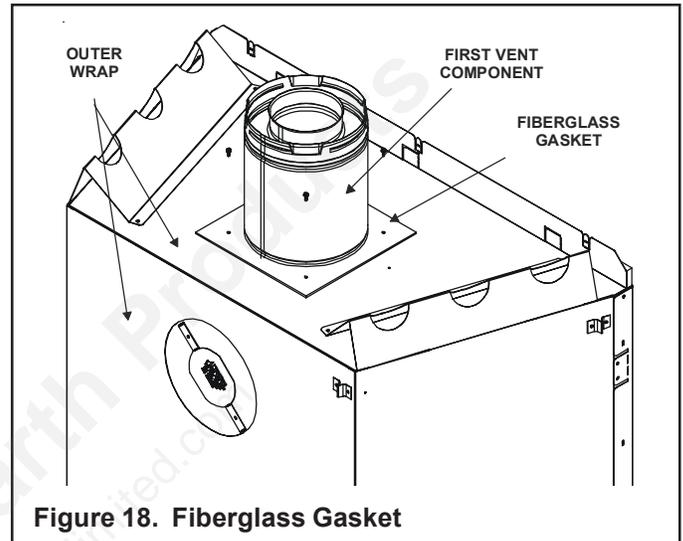

Figure 18. Fiberglass Gasket
- Make sure that the fiberglass gasket supplied in the manual bag seals between the first 8 inch (203mm) vent component and the outer fireplace wrap. Using 2 self-tapping screws from the manual bag secure that gasket to the outer wrap (see Figure 18).